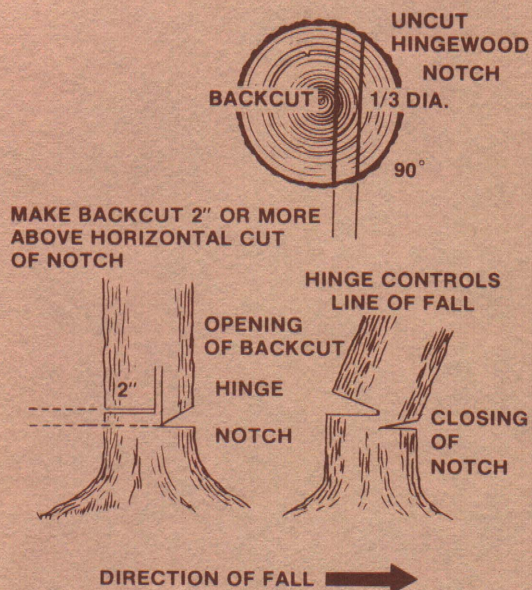

Figure 8—Notch and felling cuts must be made correctly to make the tree fall in the desired direction.
- On larger trees, make a notch on the side of the tree on which it is expected to fall. It should have a depth approximately one-third the diameter of the tree (Figure 8).